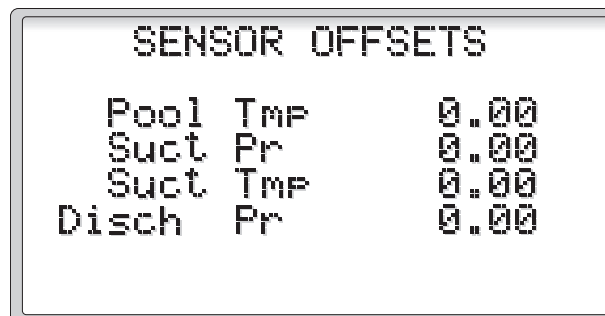

Figure 23
2.2.3.4 Sensor Offsets (Figures 23 and 24)